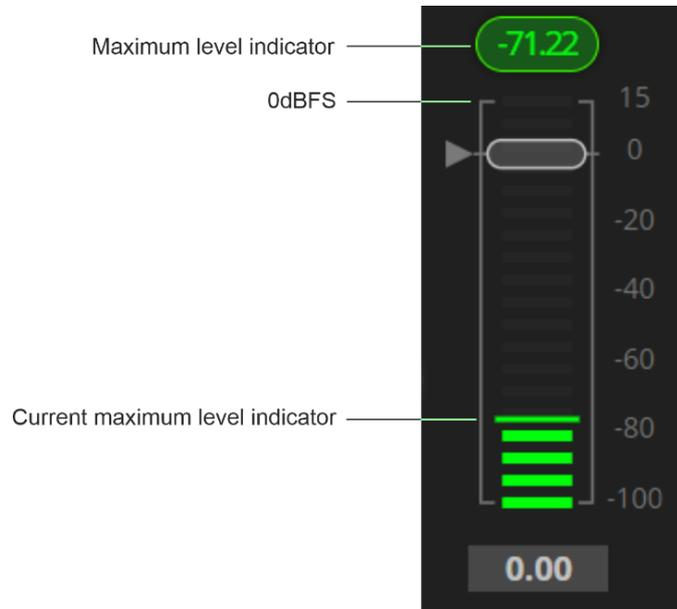

Figure 23: Level Measurement Indicators
**Note** – In figures 23 and 24 below, meters (left side) display on a scale of -100 dBFS to 0 dBFS maximum (above this is clipping or audio saturation). On the right side, the gain level points to amplification for positive values and attenuation for negative values.